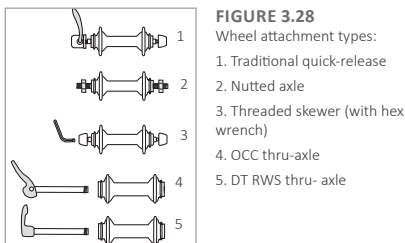

FIGURE 3.28
See these devices in Figure 3.28:
1. Move the lever of the quick-release to the OPEN position (Figure 3.28) and set the wheel so it fully touches the inner surfaces of the fork ends.
3. Lock the quick-release; with the lever in the palm of your hand, move the lever as shown in Figure 3.28 to the CLOSE position. When you move the lever to the adjustment position, you should feel some resistance.
- Do not hold the nut and only turn the lever like a wing-nut (Figure 3.28). Even turning the 'wing-nut' as tight as you can, this will not make sufficient force to hold the wheel.
1. Release the quick-release lever; move it to the OPEN position (Figure 3.28).